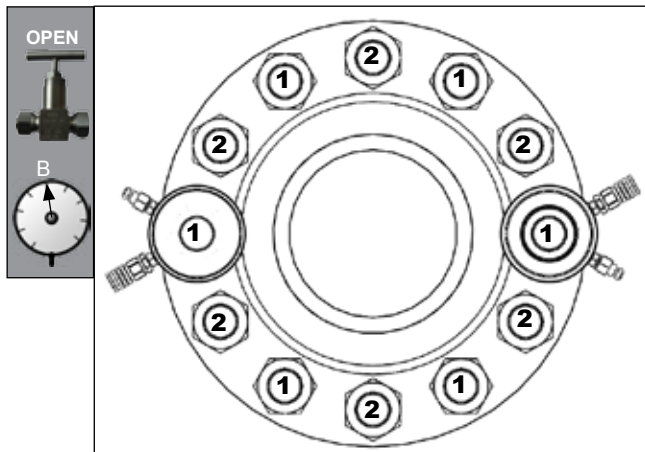

Fig 7.7
- A. Install two tensioners on two 1st 50% bolts (Marked "1", diametrically opposite each other. (Fig 7.7)